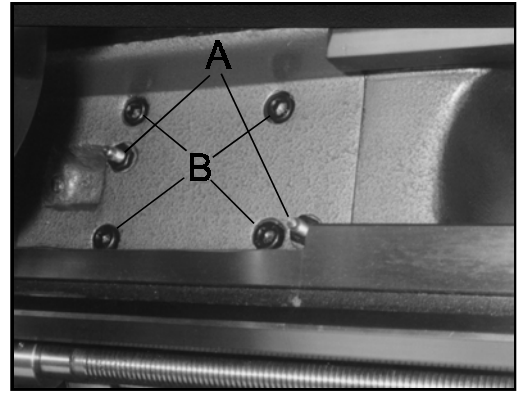

Fig. 27
1. Locate two nuts (A, Fig. 27) in the center of the gap section.
3. Remove the four hex socket cap screws (B, Fig. 27) with a hex key wrench.